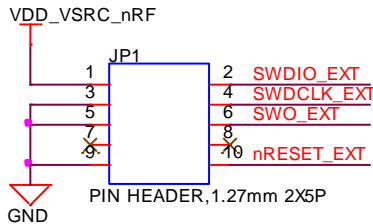

Figure 7: BL653 development board schematic
**Note:** Reference on the BL653 development board schematic (Figure 7) shows the DVK development schematic wiring only for the SWD (JTAG) connector and the BL653 module JTAG pins.
SWD (JTAG) is required because Nordic SDK applications can only be loaded using the SWED (JTAG) (*smartBASIC* firmware can be loaded using SWD (JTAG) as well as over the UART). We recommend that you use SWD (JTAG) (2-wire SWD interface) to handle future BL653 module firmware upgrades. You **must** wire out the JTAG (2-wire SWD interface) on your host design (see Figure 7, where the following four lines should be wired out – SWDIO, SWDCLK, GND, and VCC). *smartBASIC* firmware upgrades can still be performed over the BL653 UART interface, but this is slower than using the BL653 JTAG (2-wire SWD interface) – (60 seconds using UART vs. 10 seconds when using JTAG).
We recommend that you use JTAG (2-wire interface) to handle future BL653 module firmware upgrades. You MUST wire out the JTAG (2-wire interface) on your host design (see Figure 7, where four lines should be wired out, namely SWDIO, SWDCLK, GND and VCC). Firmware upgrades can still be performed over the BL653 UART interface, but this is slower (60 seconds using UART vs. 10 seconds when using JTAG) than using the BL653 JTAG (2-wire interface). JTAG may be used if you intend to use Flash Cloning during production to load *smartBASIC* scripts.